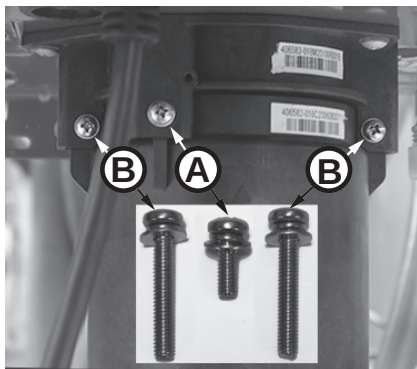

Figure 184 - Identify cartridge screws
- 5 Locate the three (3) screws securing the X3®/Bypass cartridge as shown in Figure 184. Remove the (A) M4-12mm screw and the two (B) M4-25mm screws from cartridge. Place screws aside in a safe place for reinstallation.